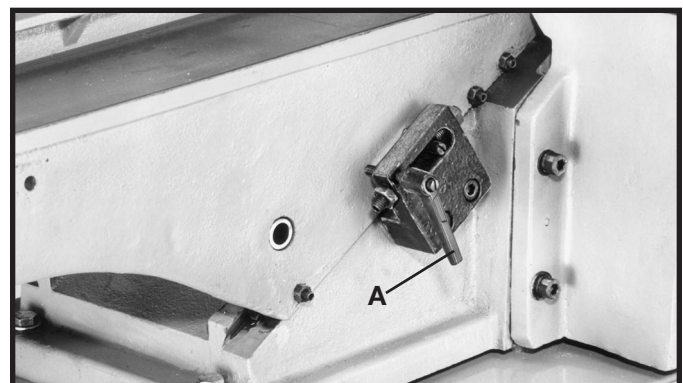
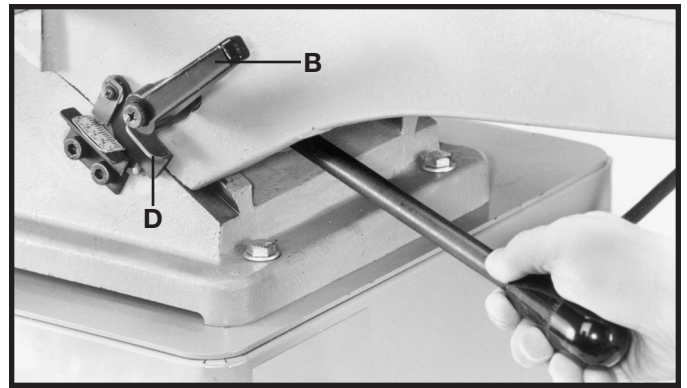
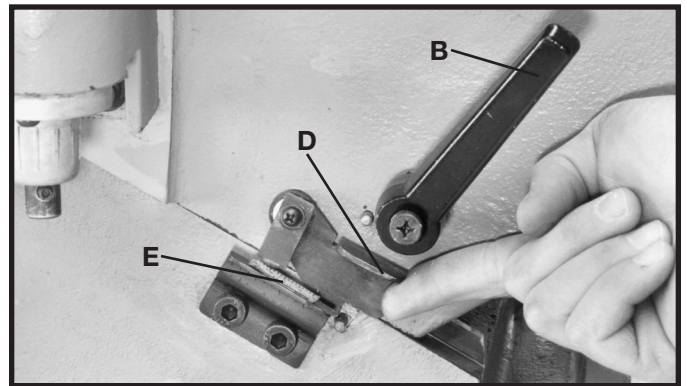

Fig. 34
Fig. 35
Fig. 36
1. To raise or lower the infeed table, loosen table locking handle (A) Fig. 34, which is located at the rear of the infeed table and loosen locking handle (B) Fig. 35, which is located at the front of the infeed table.
2. Raise or lower the infeed table adjustment lever (C) Fig. 35.
3. **IMPORTANT:** When lowering the infeed table, a depth stop (D) Fig. 35, will automatically stop the table at a 1/8" depth-of-cut. To move the table past this point, the depth stop (D) Fig. 36, must be raised, while simultaneously lowering the infeed table. Always make certain table locking handles (A) Fig. 34, and (B) Fig. 35, are tight before operating the jointer. The locking handles are spring-loaded and can be repositioned by pulling outward on the handle and repositioning it on the serrated nut located underneath the handle.
4. The depth-of-cut of the infeed table (position of the infeed table in relation to the cutting circle) is indicated on scale (E) Fig. 36. **NOTE:** Maximum depth-of-cut with this jointer is 1/2", which can be accomplished in cuts of 1/8" increments.